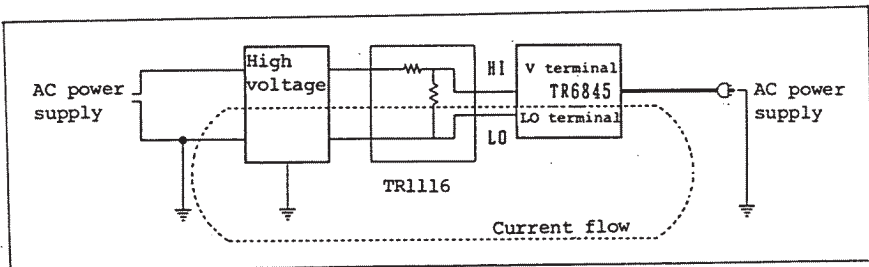

Figure A-4 Grounding Instruction in Measurement of DC High Voltage Circuit
- (b) When measuring a high voltage circuit using a DC high voltage probe TR1116, it is necessary to ground the GND of this multimeter, and also to ground the GND of the high voltage circuit. Use the one-point earth system to avoid generation of common mode voltage. (Figure A-4)